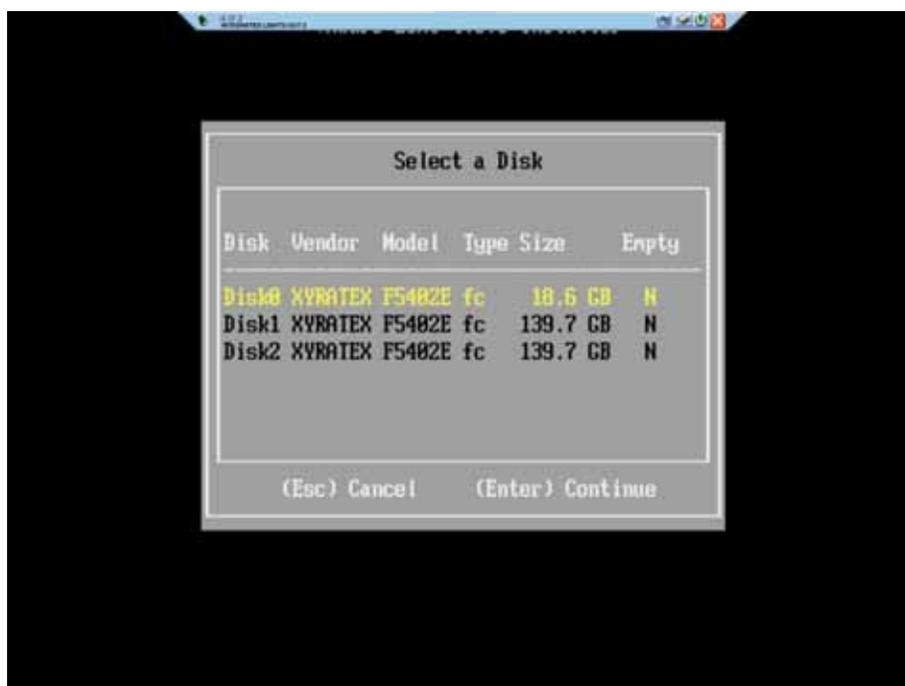

Figure 5 Select a Disk for Booting
- Step 5 On the Select a Disk dialog, select the hard disk on the PXE server. Figure 5 on page 149 shows an example of this dialog.